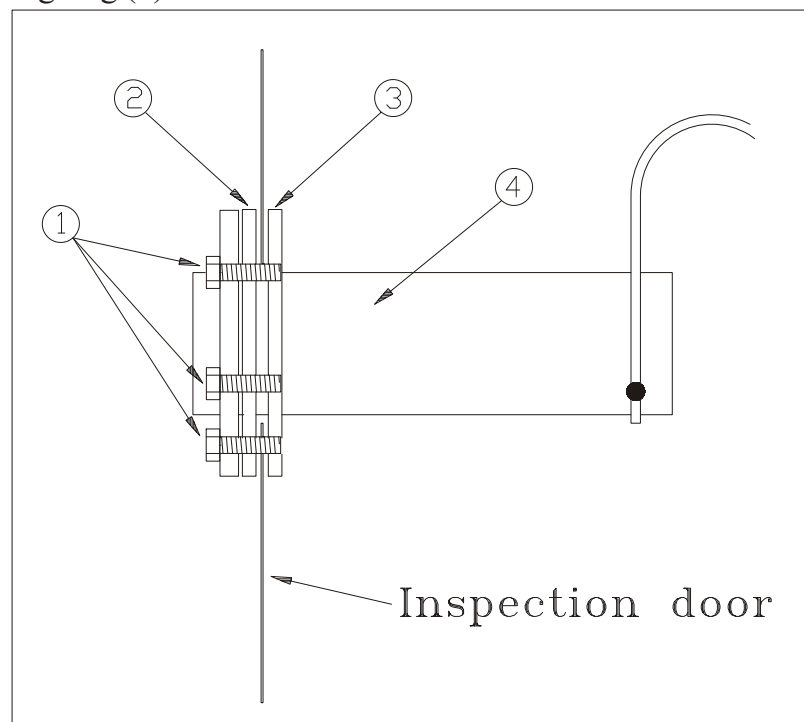

Figure 16 Fuel Quantity Transducer (Wing Tank)
(refer to Figure 16)
**Figures 16 and 17 are mirror inverted also valid for the float wire in the RH wing tank if the optional MVP-50P is installed.**